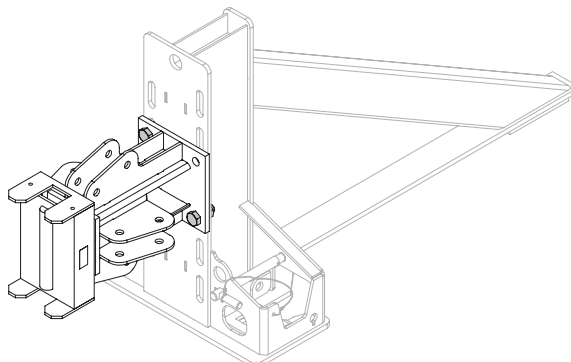

Fig. D2.07
2. Insert spindle (2.2) into head spindle (2.1) and secure against falling out. (Fig. D2.07)